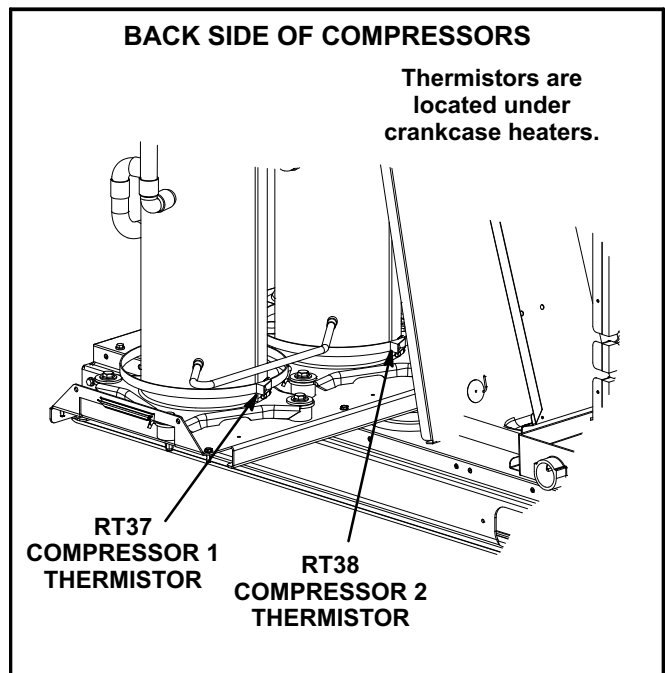

FIGURE 2
- 2- Mark and disconnect wiring to compressors. Thermistors are located behind compressors under crankcase heaters. See figure 2.